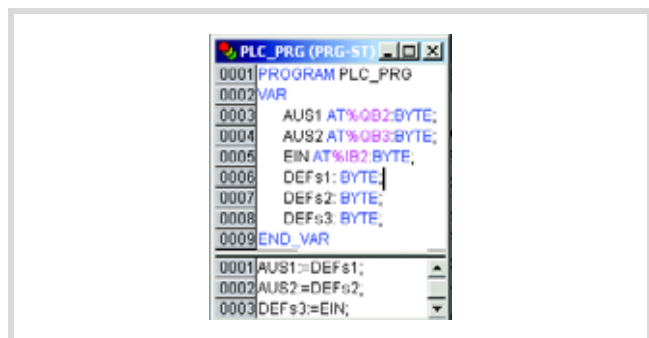

Figure 91: User program for XC100
- Create the program in accordance with Figure 91.